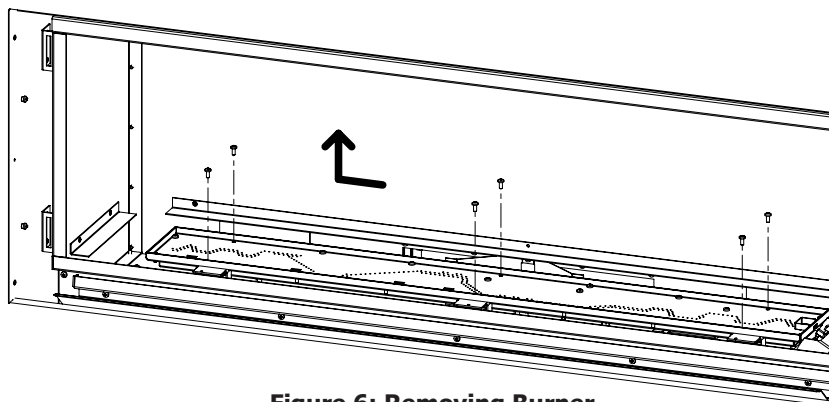

Figure 6: Removing Burner
6. Remove the six T-20 screws securing the burner pan as shown in Figure 6; do NOT remove the other T-20 screws. Once the specified screws are removed slide burner to the left and lift out to remove.